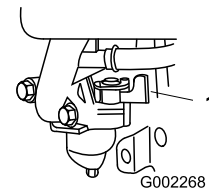

Figure 15
2. Open the fuel valve by moving the lever to the **right** (Figure 15)